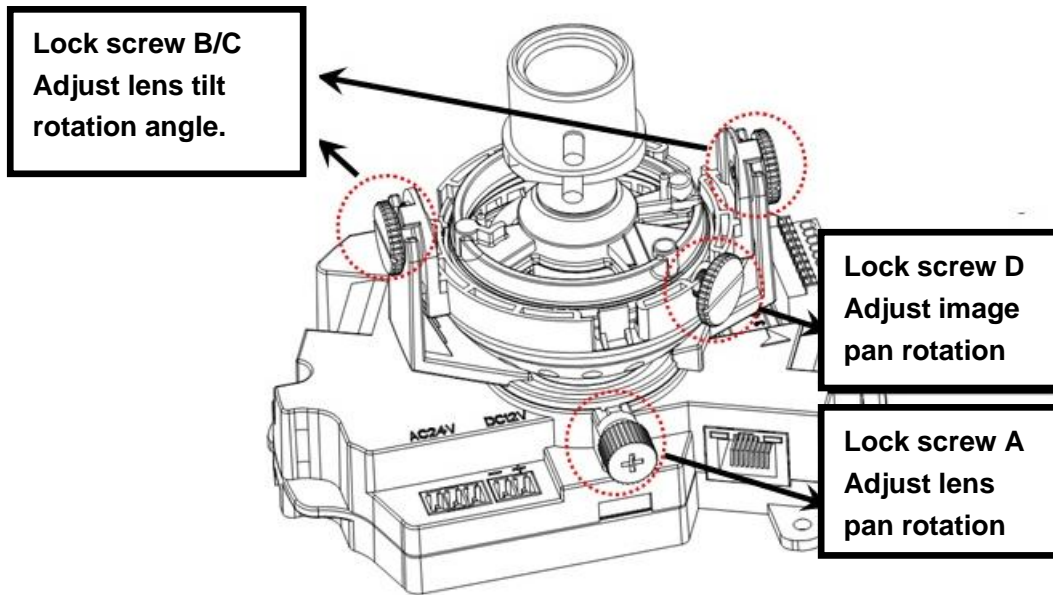

Figure 2-14
b) Lens pan rotation angle setup. Please refer to Figure 2-14 to unfasten the lock screw A and adjust the pan monitor angle to the proper position. Then fix the lock screw A. The pan angle ranges from  $0^{\circ}\sim+350^{\circ}$ .
c). Lens tilt rotation angle. Please refer to Figure 2-14 to unfasten the lock screw B and lock screw C and adjust the tilt monitor angle to the proper position. Then fix the lock screw B and lock screw C. The tilt angle ranges from  $-20^{\circ}\sim+70^{\circ}$ .
d). Image pan rotation angle setup. Please refer to Figure 2-14 to turn lock screw D to adjust the video pan angle. Then fix the lock screw B and C. The video pan angle ranges from  $0^{\circ}\sim+350^{\circ}$ .
**Please note Figure 2-14 is based on the IR motorized zoom camera. For the IR manual zoom camera and non-IR series product, the lock screw position and the lens angle adjustment are the same.**